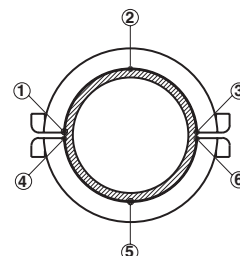

Fig. 14
15. For optimum alignment, the cover must be touching the pipe perimeter at points 1 through 6 (see Fig. 14).